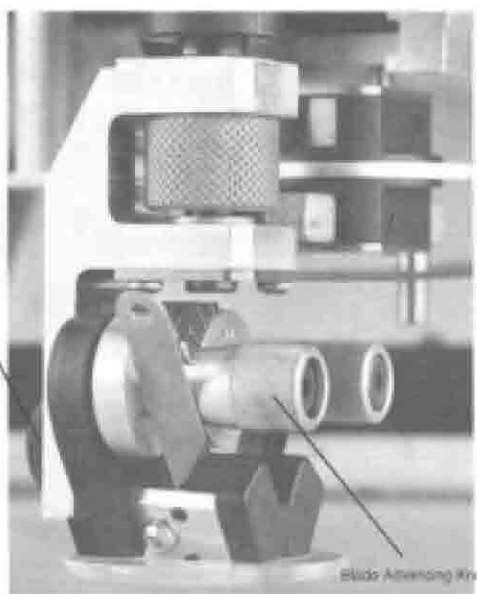

Figure 3
3. Slide a new blade in the slot, making sure that the sharp edge will face the front of the machine. See Figure 3.